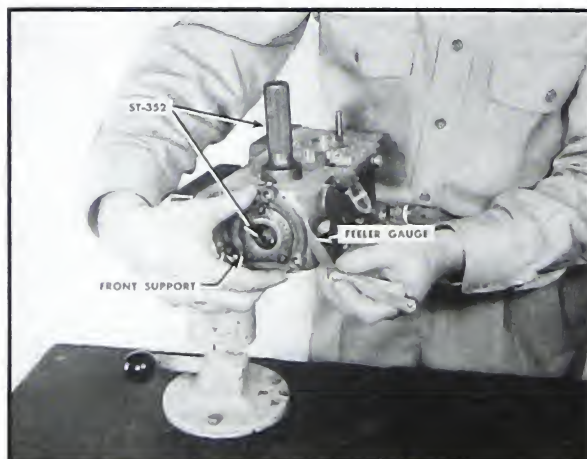

Fig. 5-318. Determine spacers required
9. Use a feeler gauge between the support and housing; then, add sufficient gaskets to fill the space. Fig. 5-318.
Normally if no parts have been replaced, the camshaft can be pressed back in the main housing using the same number of front support spacer gaskets as it had when disassembled. If parts have been changed, the position of the camshaft in the housing must be adjusted to give proper back lash to the mating gears. See Fig. 5-318.